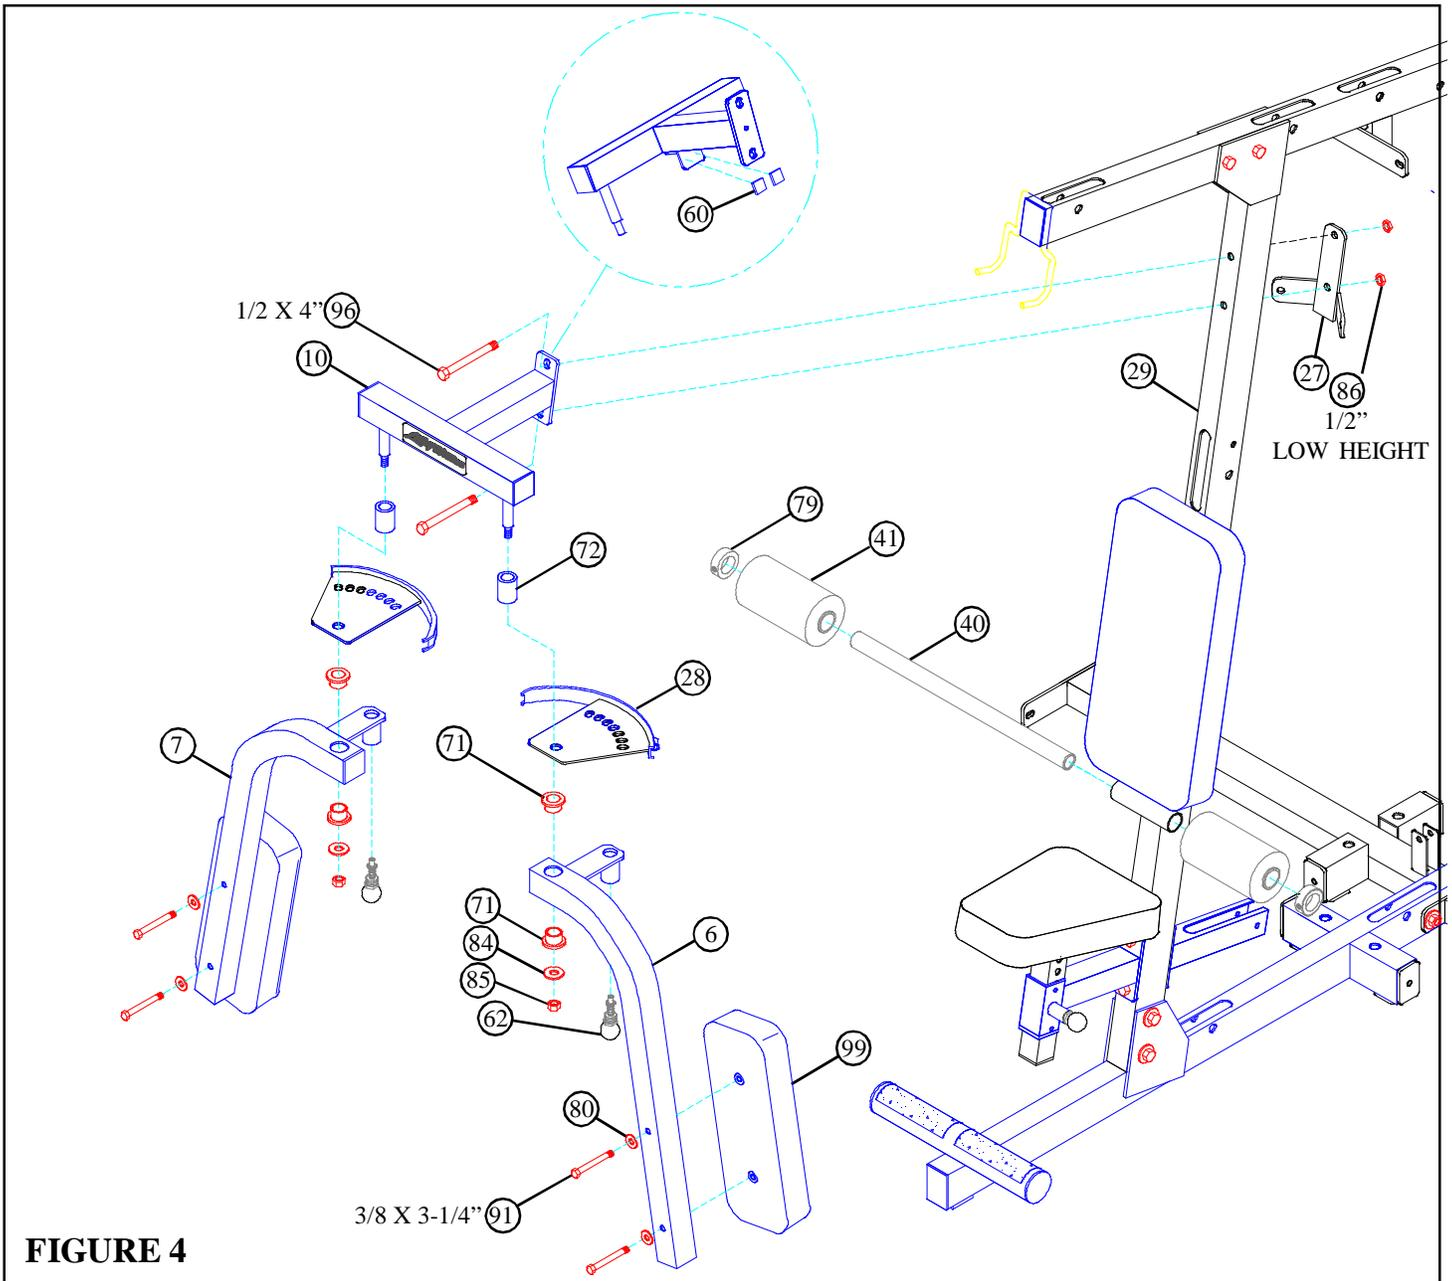

FIGURE 4
- **SECURELY** assemble the BEARING HOUSING (10) and the CENTER PULLEY BRACKET (27) to the FRONT UPRIGHT (29) using two 1/2 X 4" BOLTS (96) and two 1/2" LOW HEIGHT LOCK NUTS (86).
- Assemble the RIGHT PEC ARM (6) and one PEC CAM (28) to the BEARING HOUSING (10) using one 3/4" SLEEVE BEARING (72), two 3/4" FLANGE BEARINGS (71), one 1/2" WASHER (84), and one 1/2" LOCK NUT (85) as shown in FIGURE 4. (**NOTE: SECURELY tighten, then back nut off 1/4 turn to allow the PEC ARM to rotate freely.**)
- Assemble the LEFT PEC ARM (7) and one PEC CAM (28) to the BEARING HOUSING (10) using one 3/4" SLEEVE BEARING (72), two 3/4" FLANGE BEARINGS (71), one 1/2" WASHER (84), and one 1/2" LOCK NUT (85) as shown in FIGURE 4. (**NOTE: SECURELY tighten, then back nut off 1/4 turn to allow the PEC ARM to rotate freely.**)
- **SECURELY** assemble a 3/8 X 2-3/4" SPRING PIN (62) to the to the RIGHT & LEFT PEC ARM (6 & 7). See FIGURE 4.
- Apply two 1" X 1" GLIDES (60) to the BEARING HOUSING (10) where the PEC CAMS (28) come in contact with the BEARING HOUSING (10) as shown.
- **SECURELY** assemble one PEC ARM PAD (99) to both the RIGHT & LEFT PEC ARMS (6 & 7) using four 3/8 X 3-1/4" BOLTS (91) and four 3/8" WASHERS (80). See FIGURE 4.
- **SECURELY** assemble two 4 X 7" ROLLER PADS (41) to the FRONT UPRIGHT (29) using one 21-1/2" TUBE (40) and two 1-5/16" SHAFT COLLARS (79). **SECURELY** tighten set screws on SHAFT COLLARS (79). See FIGURE 4.